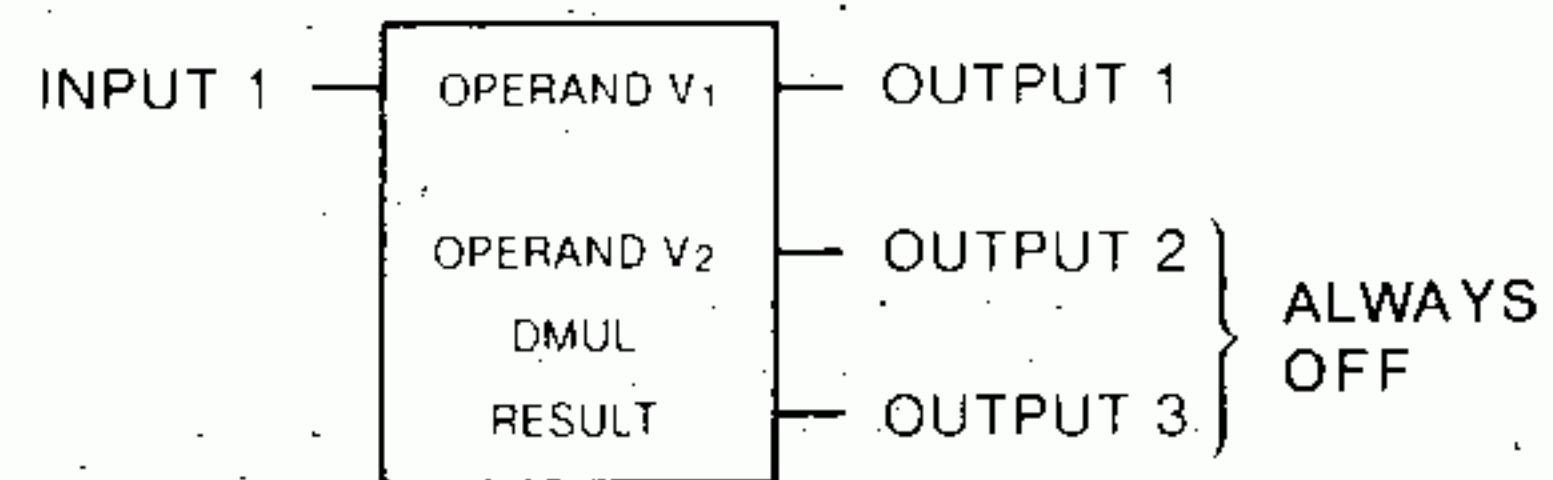

Fig. 5.34 DMUL General Form.
(2) Form
- Fig. 5.34 shows the form of double-precision multiply (DMUL).